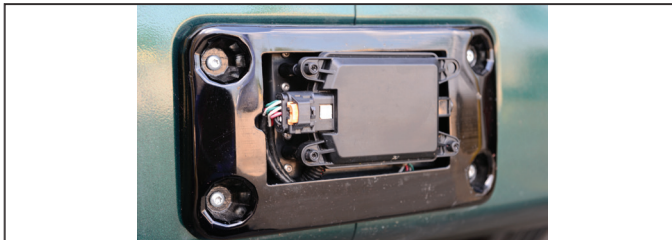

Figure K1 – Component: Radar Sensor
1. A Bendix™ FLR-20™ radar is located at the front of the vehicle – either on the bumper or just behind it on a cross-member. See Figure K1.